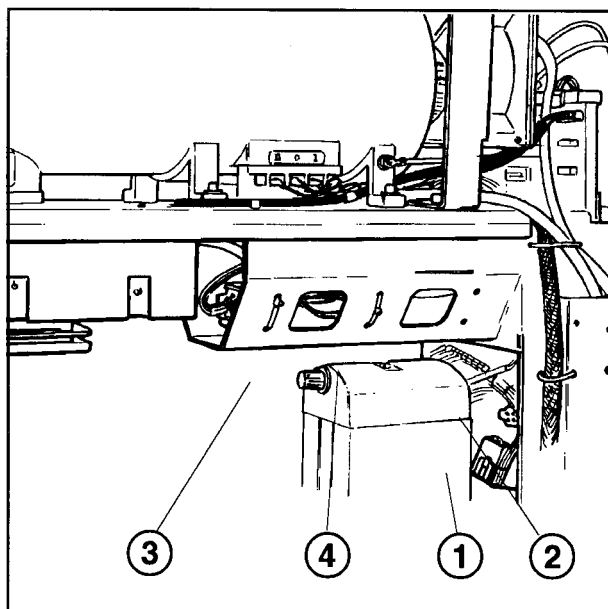

Fig. 1
- Disconnect plugs X872 and X873 (1 and 2/Fig. 1) on circuit board D805.
- Remove the potentiometer knob (3/Fig. 1). The knob is held by a screw, which is accessible after the front cap on the knob has been pried loose.
- Disengage the snap lock (4/Fig. 1) and remove the upper cover.